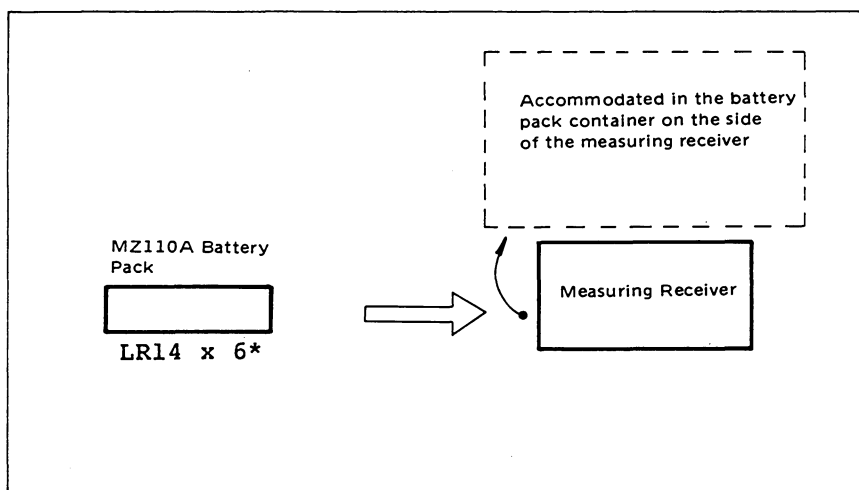

Fig. 3-1 Use of Dry Cell
This measuring receiver can be operated on any power supply of the four types shown in Fig. 3-1, 3-2, 3-3, and 3-4.
- (1) Dry cells: Insert the MZ110A Battery Pack (LR14), 1.5 V x 6, standard accessory) into the instrument. (Fig. 3-1).